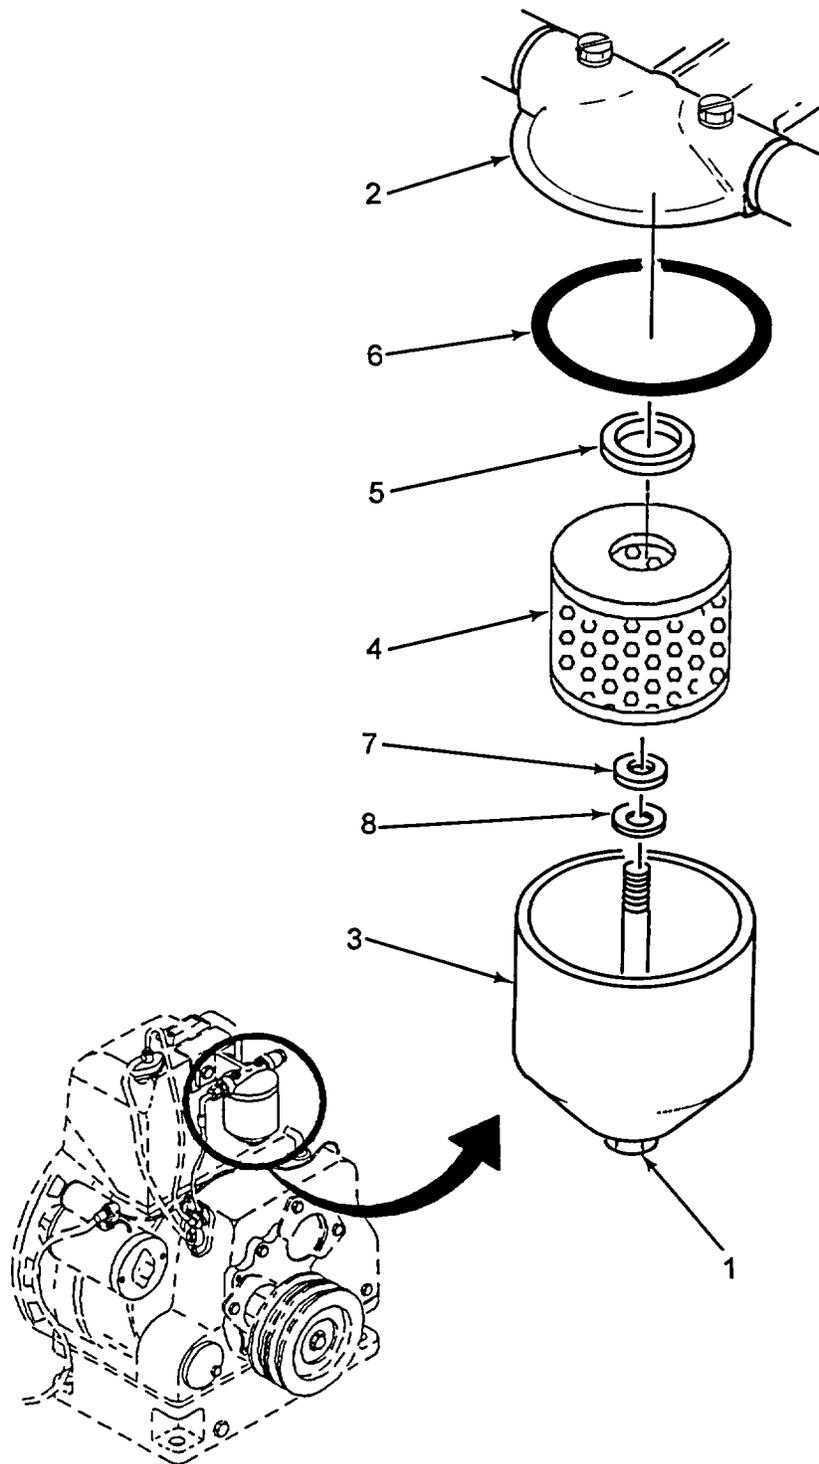

Figure 4-38. Fuel Filter Assembly
- (b) Assemble straight adapter (5), nipple (4) and tee (3) Install assembled parts in engine crankcase. Branch on tee (3) should be pointing up.
- (c) Install pressure transmitter (2) and pressure switch (1) in tee (3).
- (d) Refer to Figure 4-38 and lift out the dipstick (7) from the engine crankcase (5).
- (e) Fill the engine crankcase (5) to the top of the narrow section on the dipstick (7) to the 'H' mark (about 2 1/4 quarts).
- (f) Install the dipstick (7) into the engine crankcase (5).
- (h) Stop the engine and allow time for the oil to settle and re-check the level on the dipstick (7).
## (1) Removal. (Refer to Figure 4-38.)
- (a) Loosen center bolt (1) from fuel filter head (2) and drain diesel fuel into drain pan.
- (b) Unscrew the center bolt (1) and remove fuel filter bowl (3), with center bolt. Remove filter element (4), element washer (5) and bowl seal (6) from filter head (2).
- (c) Remove upper seal (7) and lower seal (8) from filter bowl (3).